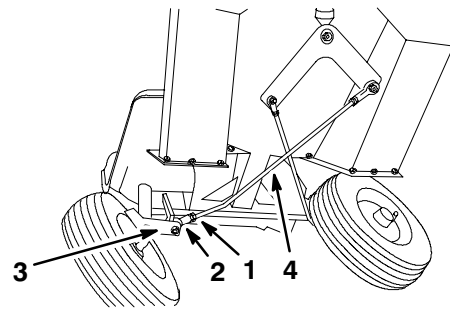

Figure 10
2. There should be approximately 1/2" clearance between front of tire and steering rod (Fig. 10). If clearance is insufficient, lengthen steering rods and recheck toe-in per instructions in Adjusting Toe-in.